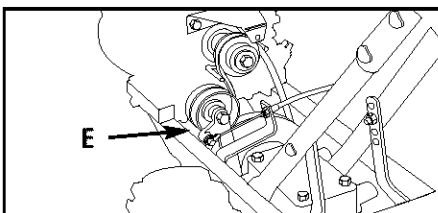

Figure 5-1A
- Shifting Mechanism. Lightly oil pivot points for smooth operation (E, Fig. 5-1A).